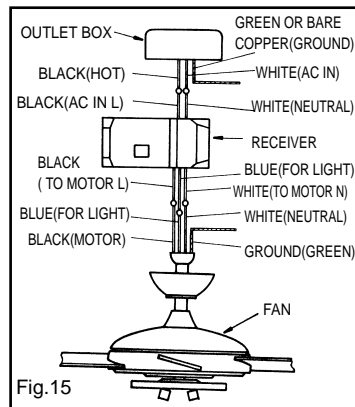

Fig.15
**Step 2.**(Fig. 15 & 16)Motor to receiver Electrical Connections; Connect the Black wire from the fan to the Black wire marked "To Motor L"from the receiver. Connect the White wire from the fan to the White wire marked "To Motor N"from the receiver. Connect the Blue wire from the fan to the Blue wire marked "For Light" from the receiver.
**Step 3.** (Fig. 15 & 16)Receiver to house supply wires Electrical Connections; Connect the Black (Hot)wire from the outlet box to the Black wire marked "AC in L"from the receiver. Connect the White (neutral)wire from the outlet box to the white wire marked "AC in N"from the receiver. Secure all wire connections with the plastic wire nuts provided.
**Step 4.**(Fig.15 &16)If your outlet box has a ground wire (green or bare copper)connect the fan ground wire from hanger ball and hanger bracket to it; otherwise connect the fan ground wire from the hanger ball and hanger bracket together.